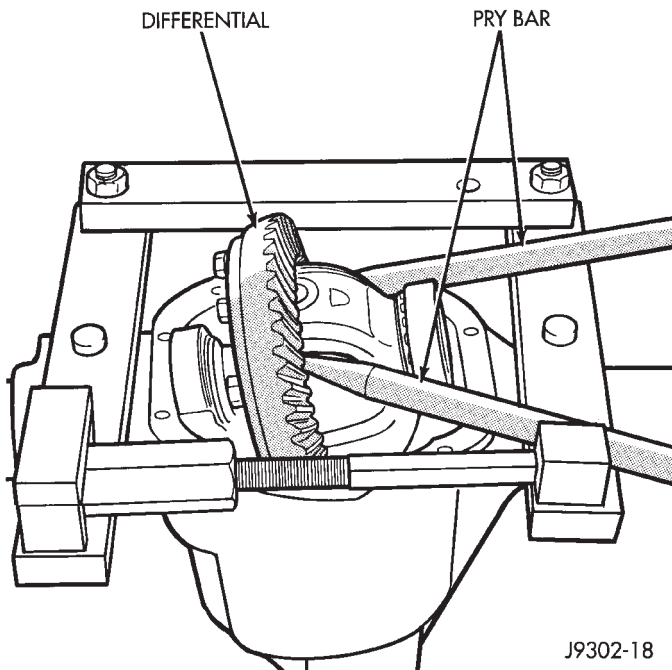

Fig. 20 Differential Removal
- (8) Remove the dial indicator.
- (9) Pry the differential case loose from the housing. To prevent damage, pivot on housing with the end of the pry bar against spreader (Fig. 20).